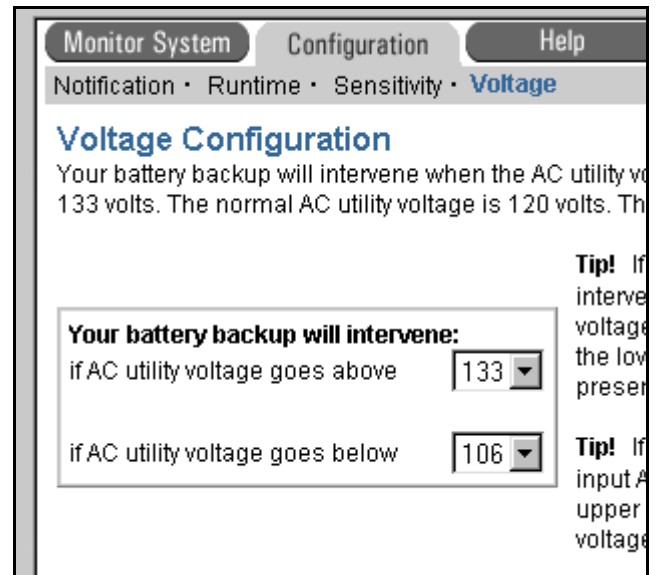

FIG. 5
5. Select the final subtab called Voltage. Make sure that 133 is selected from the drop down box next to “If AC utility voltage goes above”. Make sure that 106 is selected from the drop down box next to “If AC utility voltage goes below”. See FIG. 5.